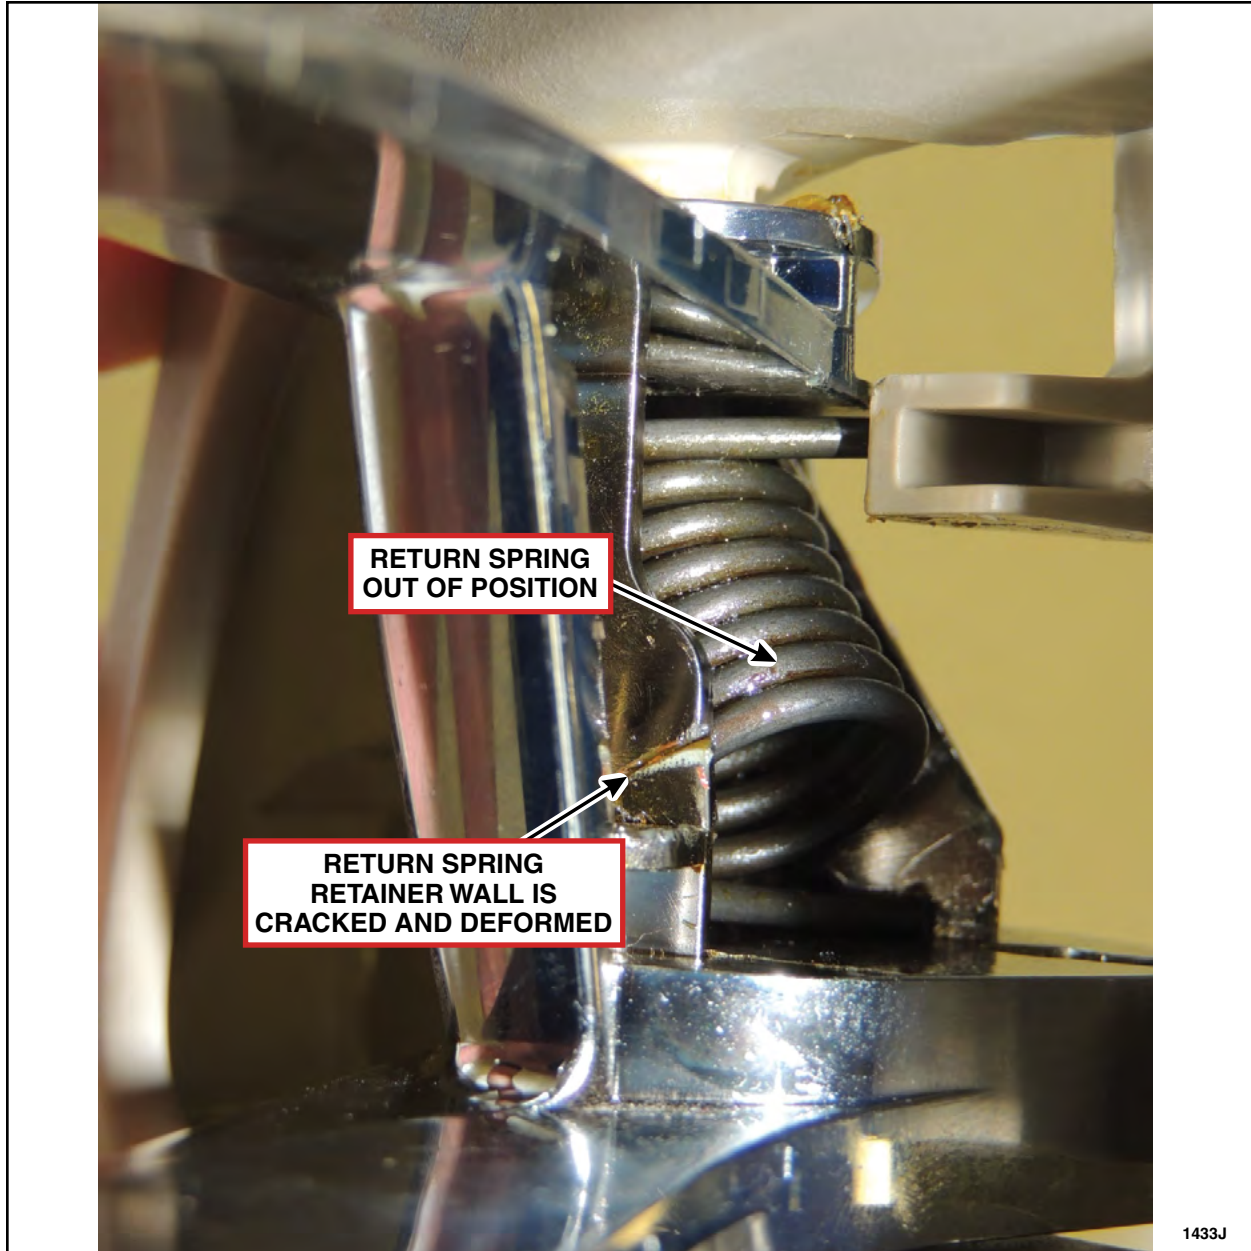

FIGURE 7
7. Spring retainer wall is missing, deformed, or broken. See Figure 7.